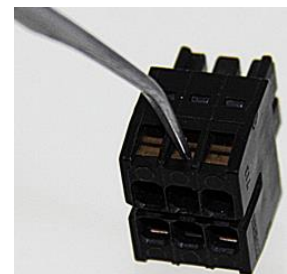

Figure 413: Power Terminal Block CEP001
1. Using the power cord, attach the power supply to the power terminal block as diagrammed in Figure 413.